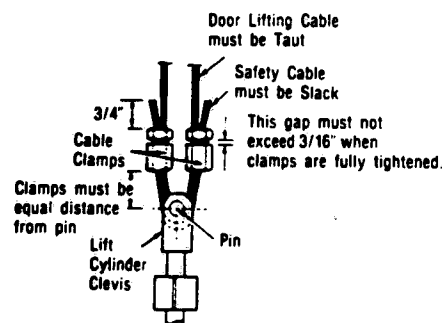

Figure 7-5. ATTACHING SAFETY CABLE.
13. At lift cylinder clevis, add safety cable as shown in Figure 7-5. Ensure that safety cable is not taut.